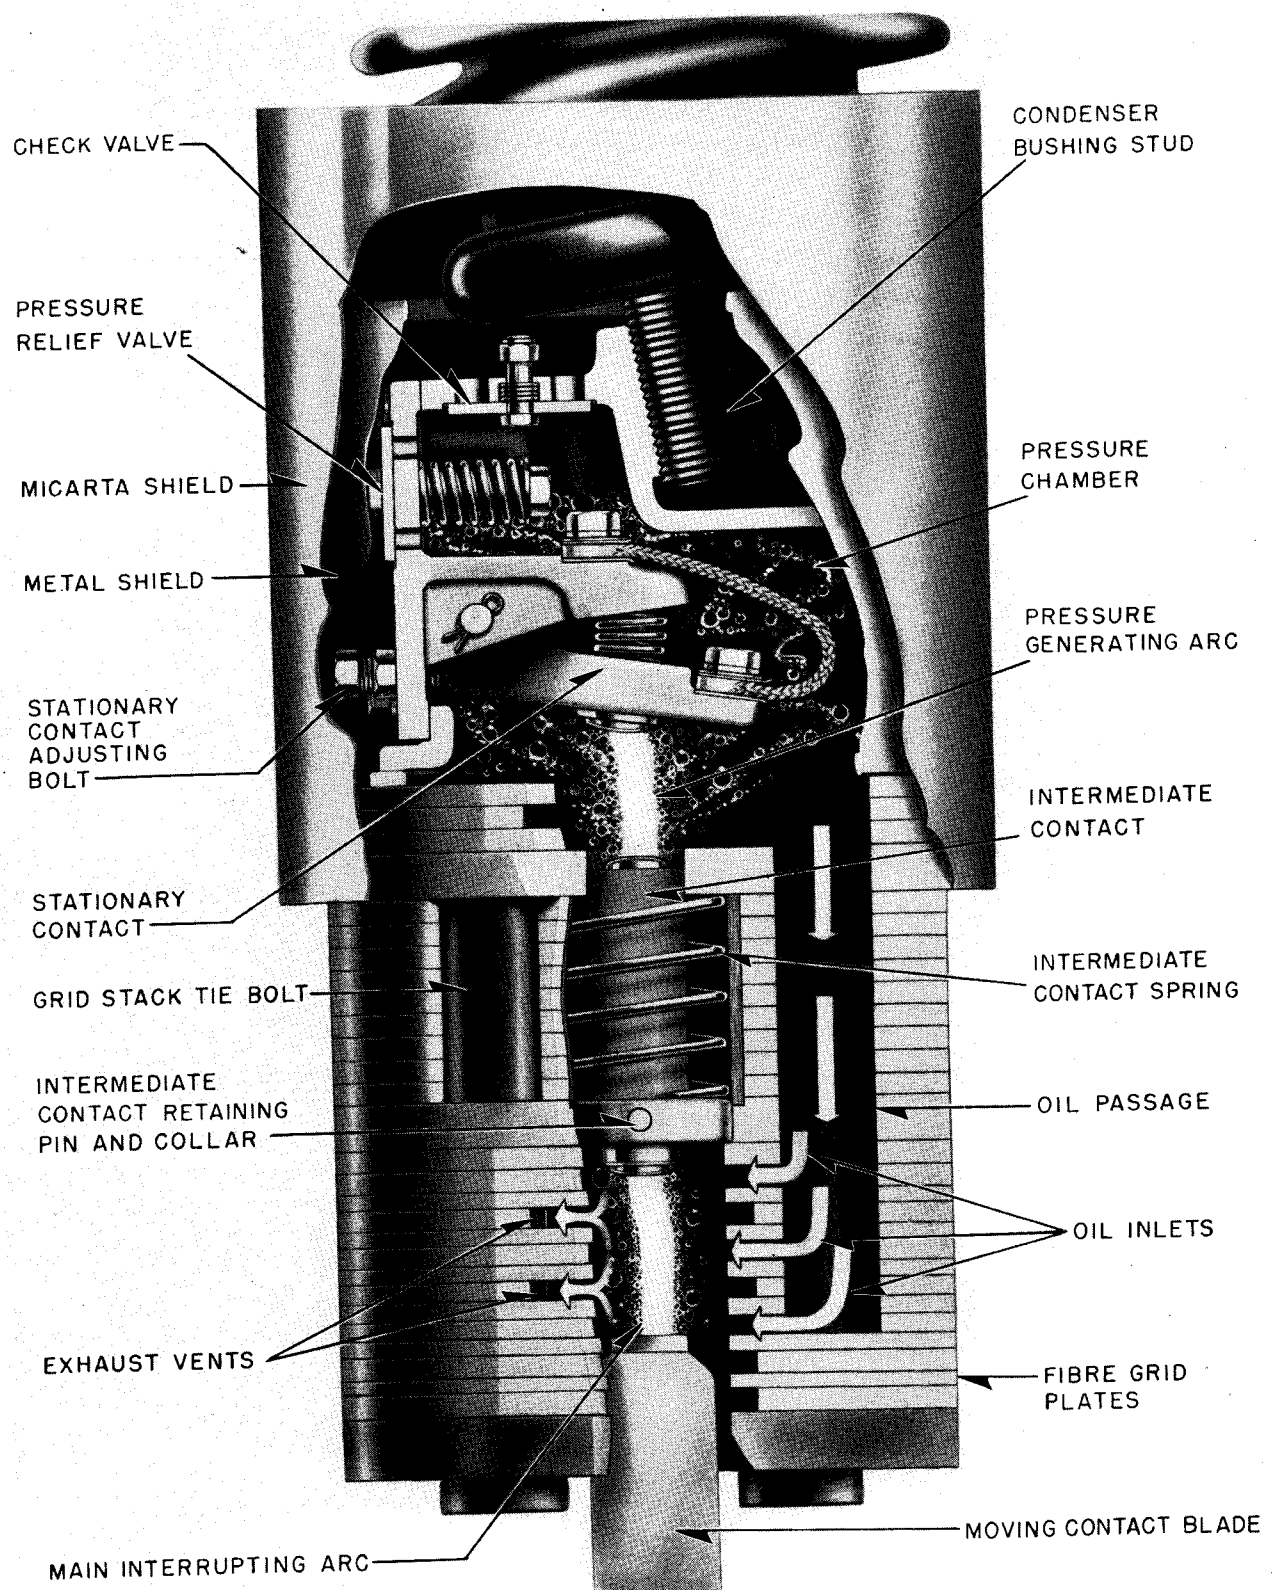
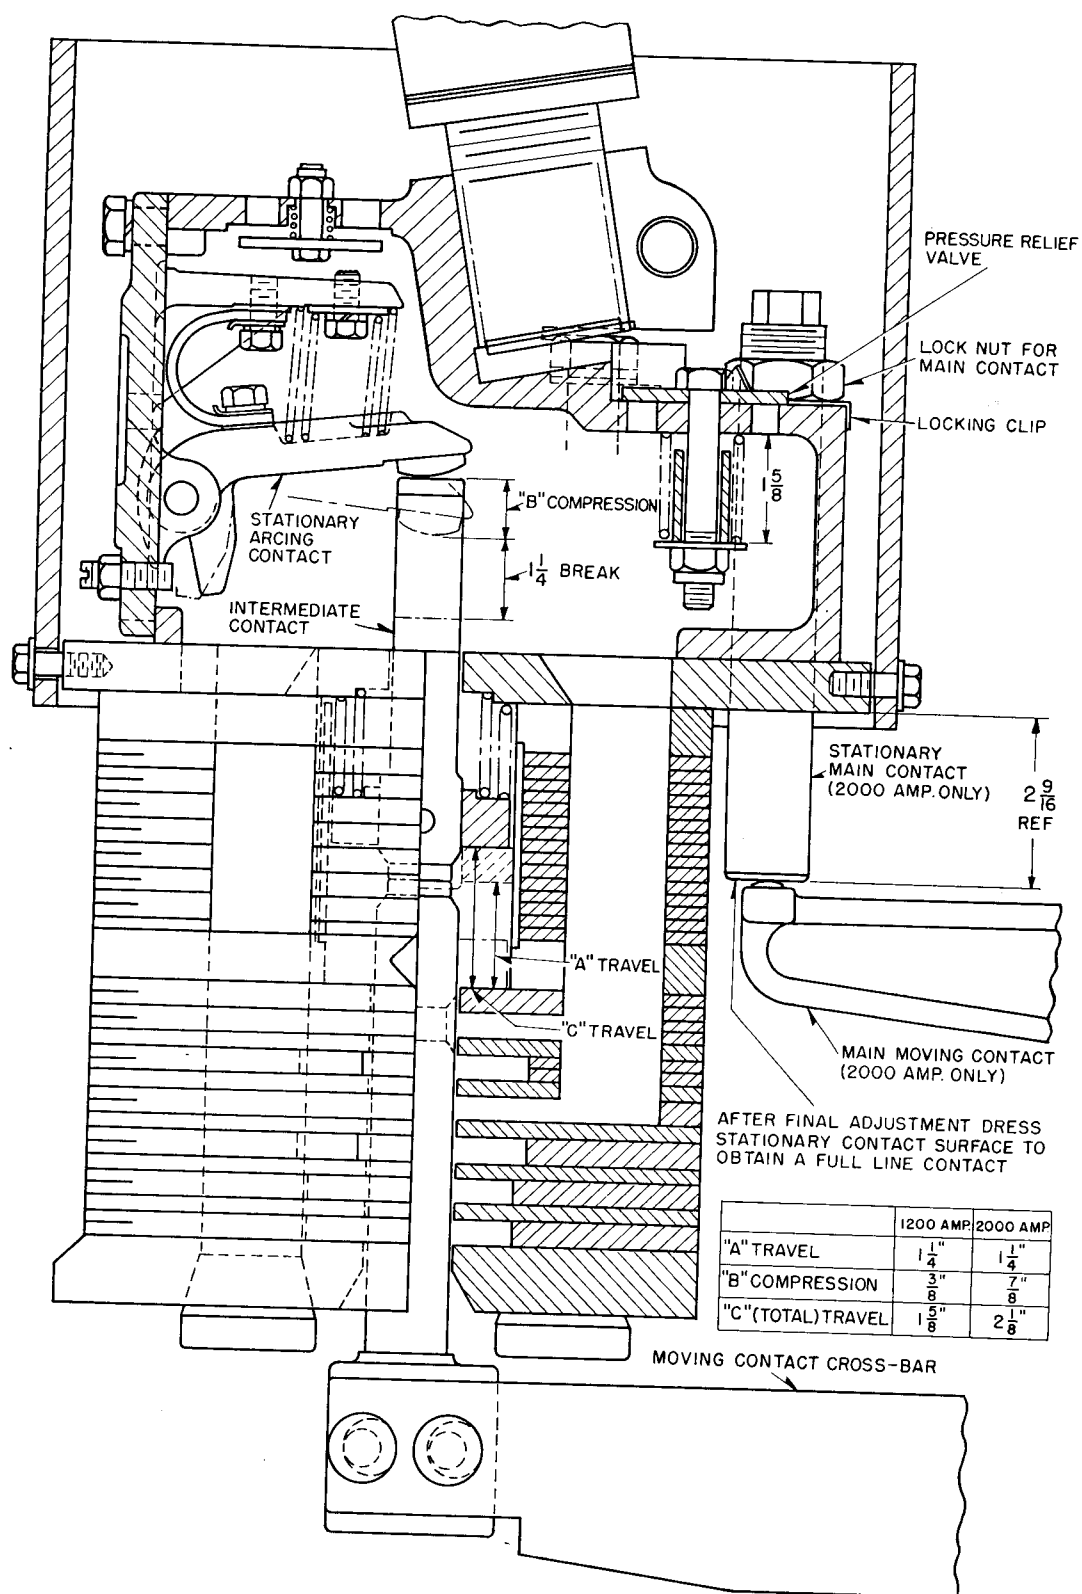

FIG. 3. Quarter-Section Cutaway of Contact Assembly
FIG. 4. Stationary Contact Assembly (Shown Closed)
4. Close the breaker slowly by hand, checking to see that the lift rods and contacts are properly adjusted for correct alignment and that proper stationary contact compression or overlap is obtained when the breaker is closed. (See Figures 4 and 5.)
The oil passages may be seen in the contact assembly illustration (Fig. 3). The oil is forced down either side of the grid and then into inlets on each side of the arc path. The oil flow along the main arc path deionizes the arc, and the arc products pass out of the grid through exhaust vents on either side of the grid stack. The vents are staggered in height with respect to the inlets and are located 90° around the grid. (Fig. 3 is a quarter-section drawing and thus shows only one half the number of inlets and vents.)
Fig. 3 applies to both the 1200 ampere and 2000 ampere rating for the interrupting unit. In addition, the 2000-ampere breaker has main contacts external to the interruptor as shown on Fig. 4. In order to insure that the main contacts part first without interrupting any current, the stationary arcing contact has $\frac{7}{8}$ -in. compression as compared to $\frac{3}{8}$ -in. compression for the 1200-ampere breaker. Another slight difference is that the pressure relief valve is at the rear of the top casting instead of in the stationary contact cover.
After all parts are in place, operate the breaker slowly by hand and adjust the various parts with respect to each other until proper contact, pressure or engagement is obtained. (See Figs. 4 and 5). Correct adjustment of the pole unit lever systems must be made so that the moving contacts and lift rods move freely in the holes of the "De-ion" Grids and the lift rods in the lift rod guides. After this is done, tighten all bushing flange bolts evenly and securely, tighten lock nut holding contact foot to bushing, replace insulating shield on stationary contact assembly and check all nuts and bolts on the stationary and moving contacts for tightness.